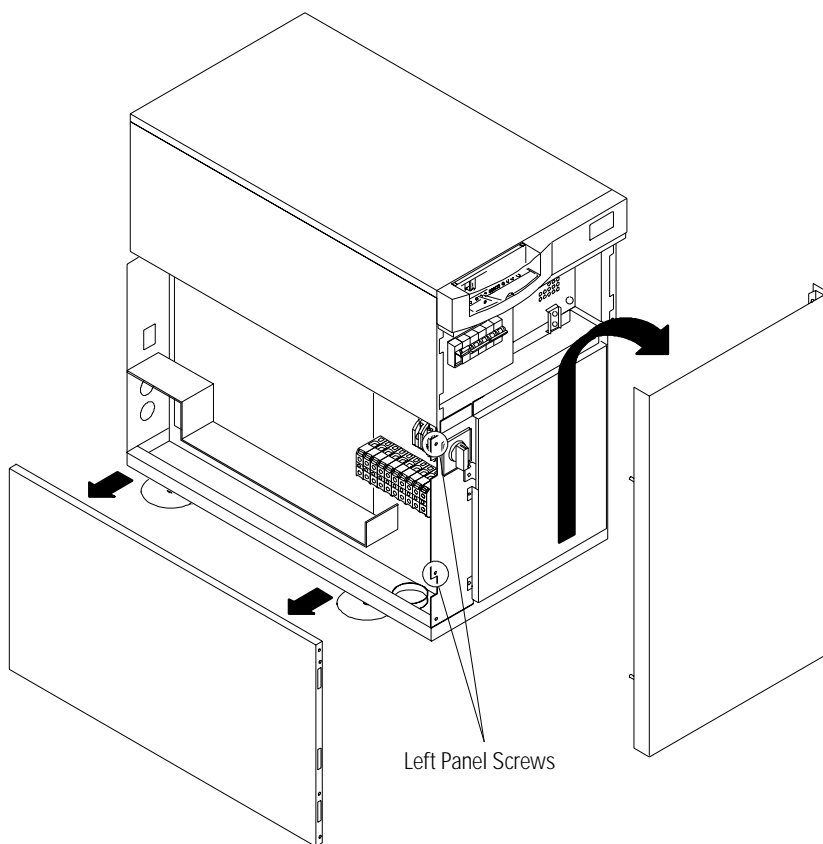

Figure 8. Removing the UPS Panels
2. Remove the front panel. Lift from the bottom of the panel and then pull out (see Figure 8).
3. Remove the left side panel of the UPS by unscrewing the two screws and pulling the panel (see Figure 8).